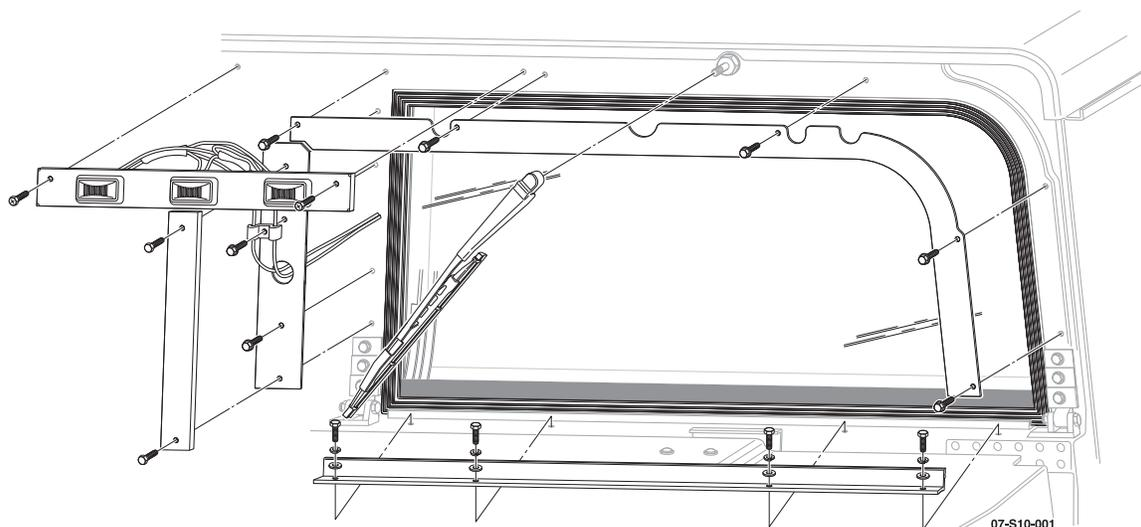

Figure 1: Windshield Component Configuration
3. Remove the windshield wiper arm and blade assembly (See Figure 1).
6. Remove the six bolts and the upper retainer from the windshield frame (See Figure 1).